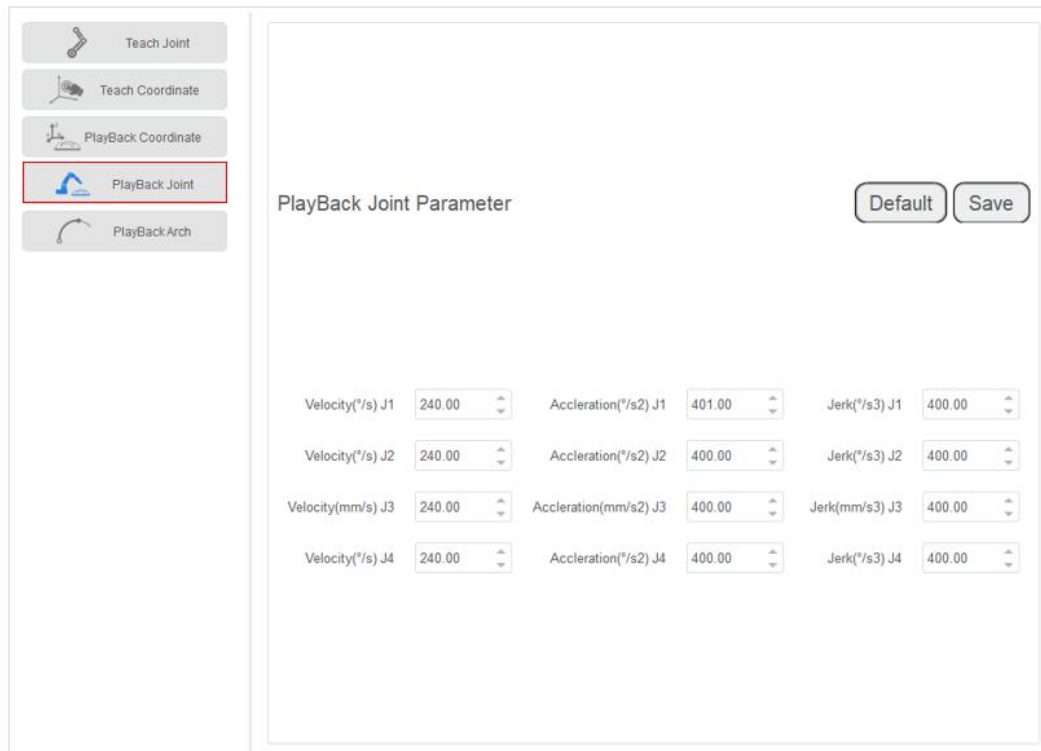

Figure 3.41 Playback parameters in the Joint coordinate system
- Playback Joint Parameter: Set the maximum velocity, acceleration, and jerk in the Joint coordinate system when running robot programs. The playback parameters of a robot in the Joint coordinate system are as shown in Figure 3.41.